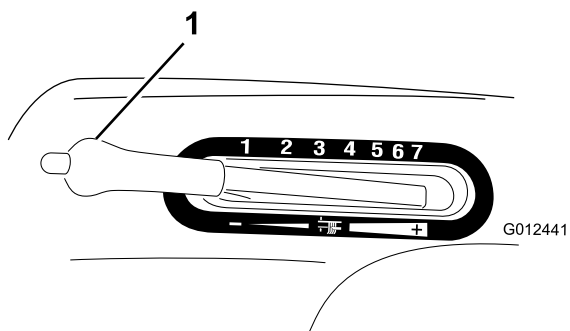

Figure 9
1. Push and hold in the button on the height-of-cut lever (Figure 9).